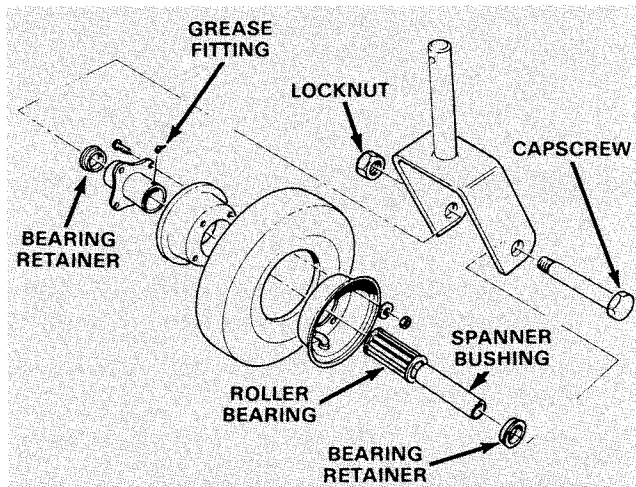

Figure 11
1. Remove locknut from capscREW holding castor wheel assembly between castor fork (Fig. 11). Grasp castor wheel and slide capscREW out of fork.
Note: Account for the two bearing retainers (Fig. 11).
2. Tip wheel to the side and allow roller bearing and spanner bushing to fall out (Fig. 11).
6. Pump more grease through grease fitting on wheel (Fig. 11) until bearing is greased thoroughly.